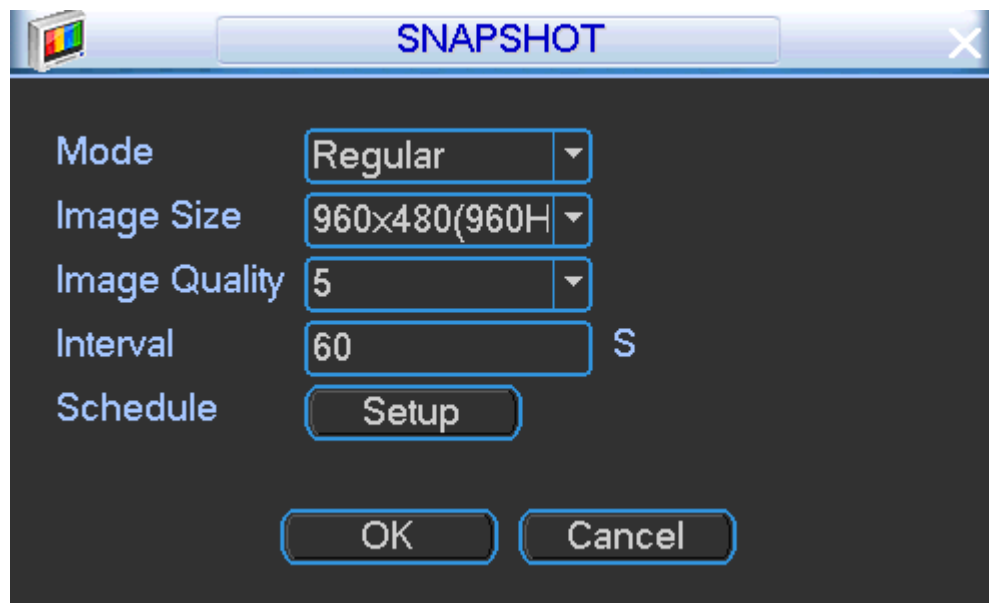
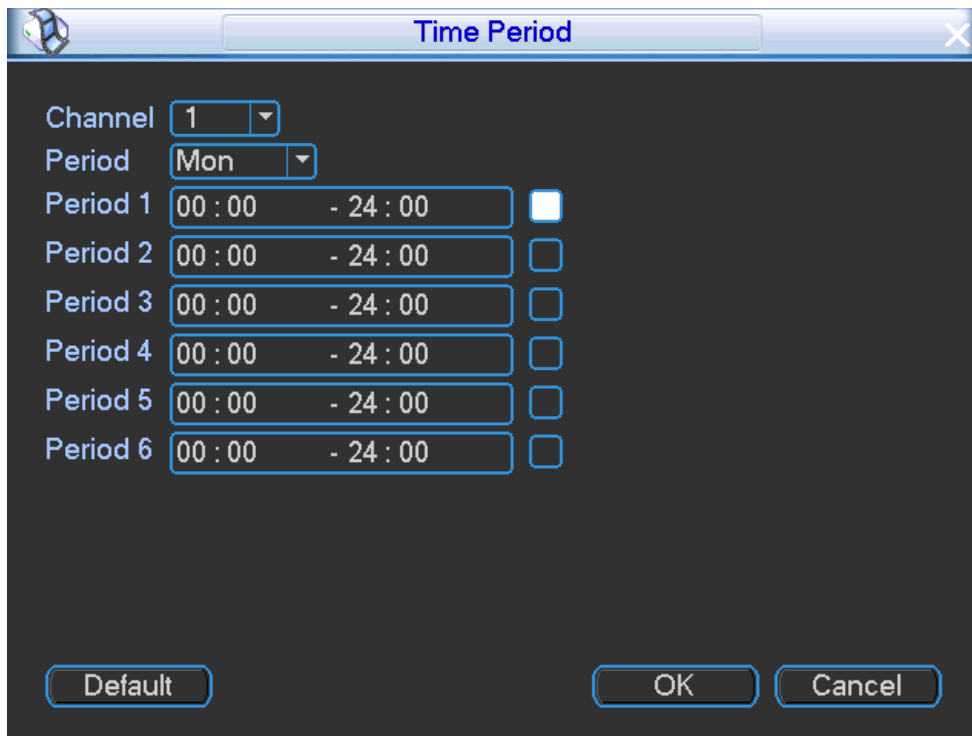

Figure 4-36
Figure 4-37
- The following setups are usually operated in the Figure 4-33, Figure 4-36 and Figure 4-37 .
Enter Snapshot interface. See Figure 4-36.
Step 3 Click Schedule setup button, the interface is shown as in Figure 4-37.